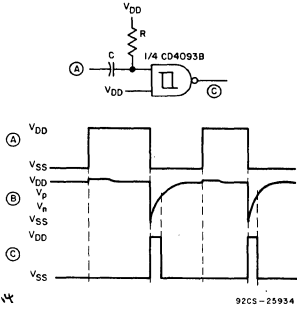

Fig.14 - Falling-edge detector.
**Edge Detector** - Fig.13 shows a circuit that provides a short negative-going output pulse for every positive-going edge at the input. The input waveform is coupled to the input by capacitor C; the pulse length depends, as before, on R and C. If a negative going edge detector is required, the circuit of Fig.14 should be used.